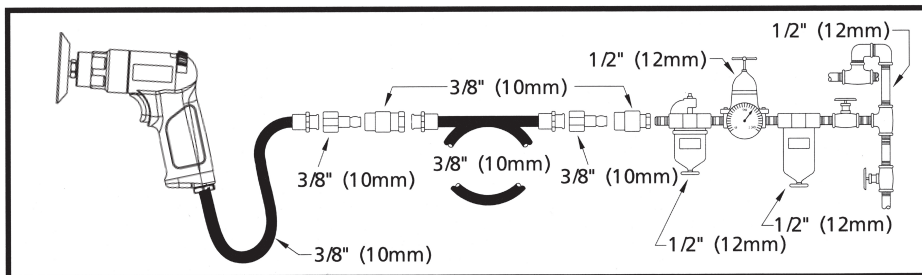

Figure 2 - Air Diagram
1. Supply tool with 90 PSI of clean, dry air. Higher pressure drastically reduces tool life. Connect tool to air line using pipe, hose and fitting sizes shown in Figure 2. Do not install a quick coupler directly into the grinder throttle handle.
Always shut off air supply, drain hose of air pressure and disconnect tool from air supply when not in use. before changing accessories or when making repairs. Never direct air at yourself or anyone else. Whipping hoses can cause serious injury-Always check for damaged or loose hoses and fittings. Do not use quick disconnect couplings at tool. See Figure 2 for correct set-up. Whenever universal twist couplings are used, lock pins must be installed.